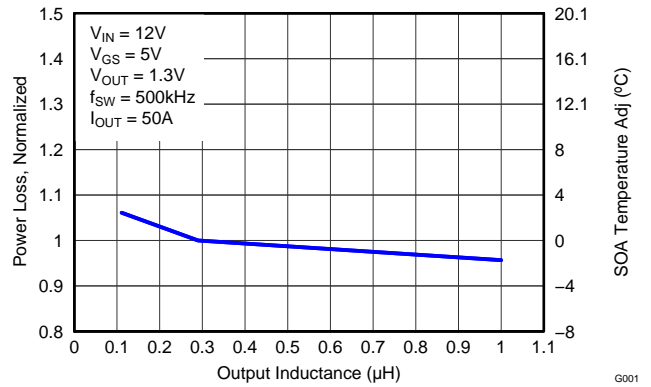

Figure 9. Normalized Power Loss vs. Output Inductance
- Normalized Power Loss for output inductor ≈ 1.03 (Figure 9)
- SOA adjustment for output inductor $\approx 1.3^\circ\text{C}$ (Figure 9)